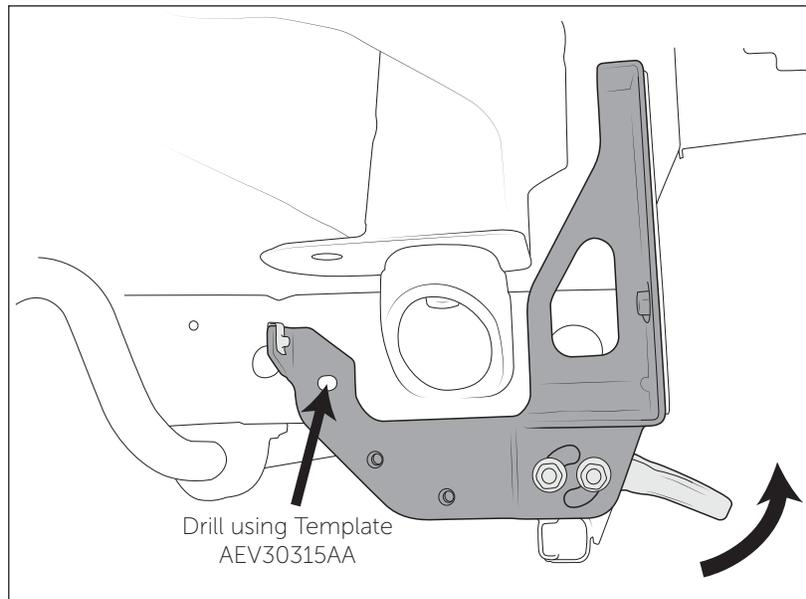

Figure 9
1. Position bumper bracket with tow hook in factory location. Loosely install factory tow hook bolts through the bracket and tow hook. (fig. 9).
NOTE: When tightening the tow hooks make sure to push them into their highest upright position (see fig. 9). Now is also the perfect time to wire and aim your fog lights.